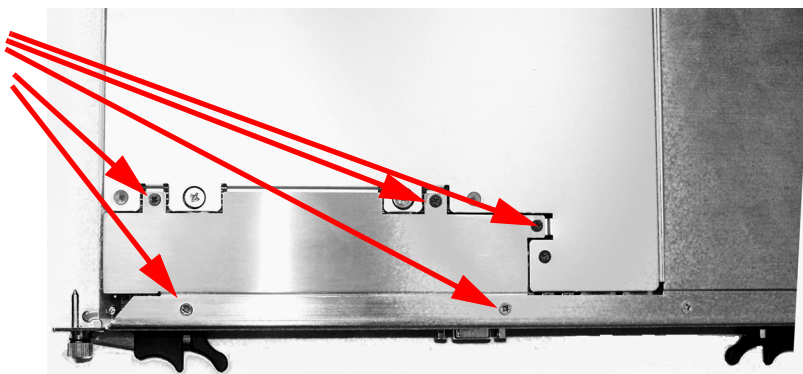

Figure 35 M9536A Disassembly for adding memory. Use a #1 Phillips screwdriver to remove and replace screws.
- 3 Position the controller, top side up on the workbench. Remove the four screws and panel as indicated in Figure 35.
- 2 Replace the cover panel and four screws (Figure 35).